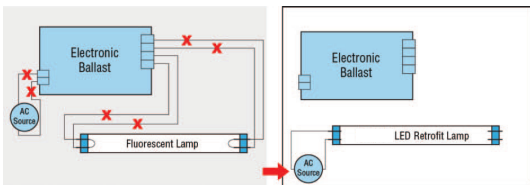

Figure 3. - Retrofit with One Lamp
- Make sure all sockets are replaced and wired according to the appropriate wiring diagram. (Figure 3, 4, 5, 6).